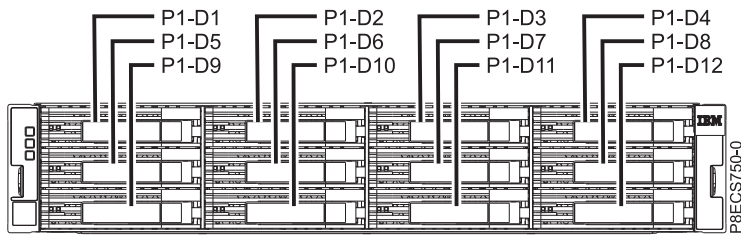
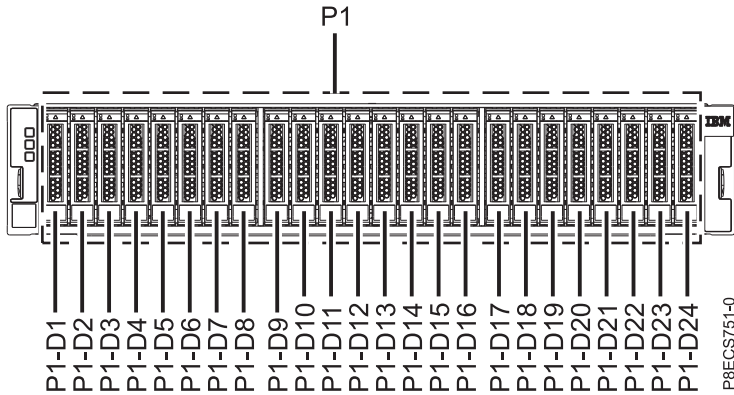
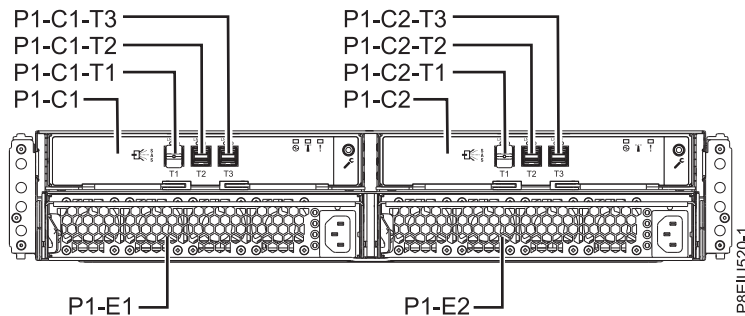
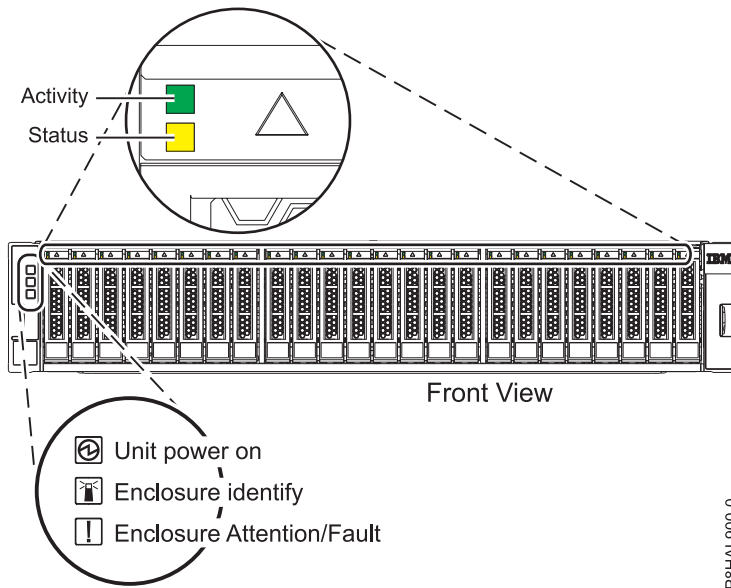

Figure 6. Front view of the ESSL storage enclosure showing the disk drive locations
Figure 7. Front view of the ESLS storage enclosure showing the drive locations
Figure 8. Rear view of the storage enclosures
Figure 9. Front view of the storage enclosure showing the service indicators
1. Identify the part and the enclosure that you want to service. The disk drive and SSD slots are located in the front of the enclosure. Figure 6 shows the front of the ESSL storage enclosure, Figure 7 shows the front of the ESLS storage enclosure, Figure 8 shows the rear view of the storage enclosures, and Figure 9 on page 8 shows the locations of the service indicators for the enclosures.